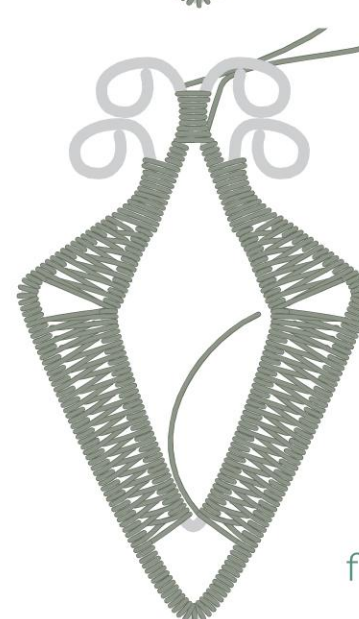

figure 8
- 23 Coil the inner diamond tip two to three times (Figure 8). Cut all wire tails.